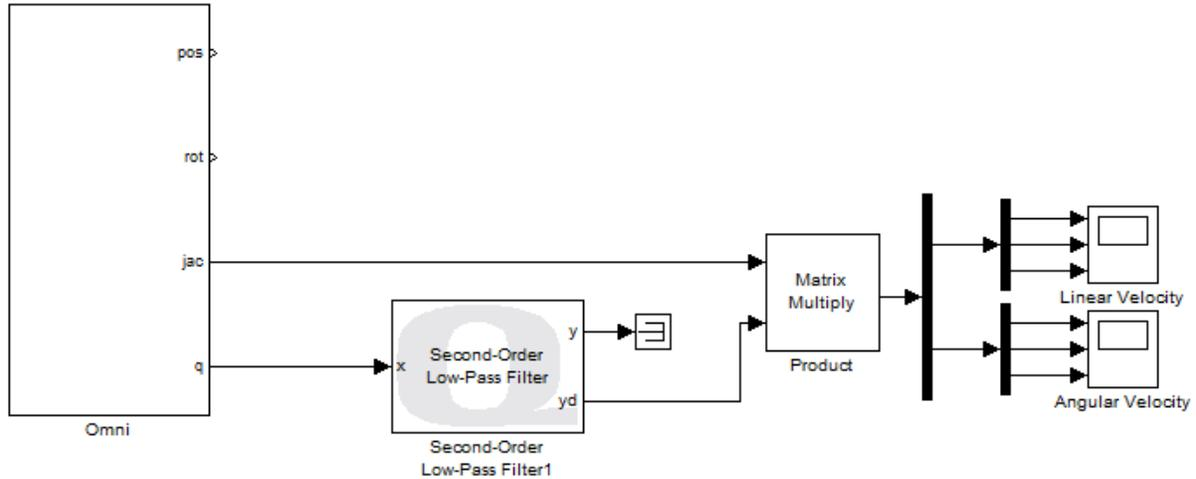

Figure 8.7: Model to get end-effector velocities
- Plot the output of this product on two different scopes. Your model should resemble Figure 8.7. To create three inputs to the scope, open the scope, click on *Parameters* and change the *Number of axes* from 1 to 3.